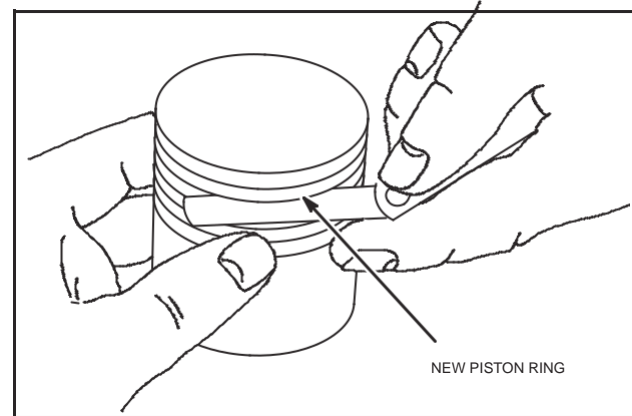

Fig. 3 – Checking Ring Grooves
1. Check side clearance of ring grooves using NEW rings, Fig. 3. If a 0.12 mm (0.005") feeler gauge can be inserted, the ring groove is worn. The piston must be replaced.